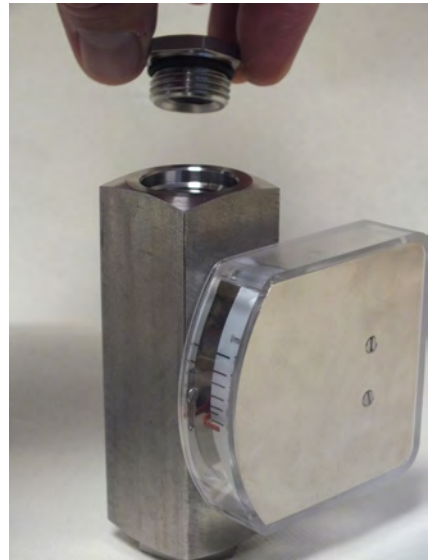

Fig. 43: Remove the process connection (outlet)
7.  Unscrew the process connection (outlet) from the device body (Fig. 43). If necessary, remove the O-ring from the process connection.